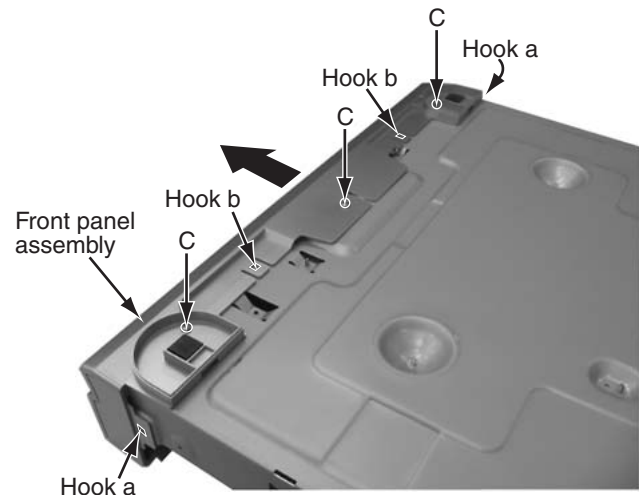
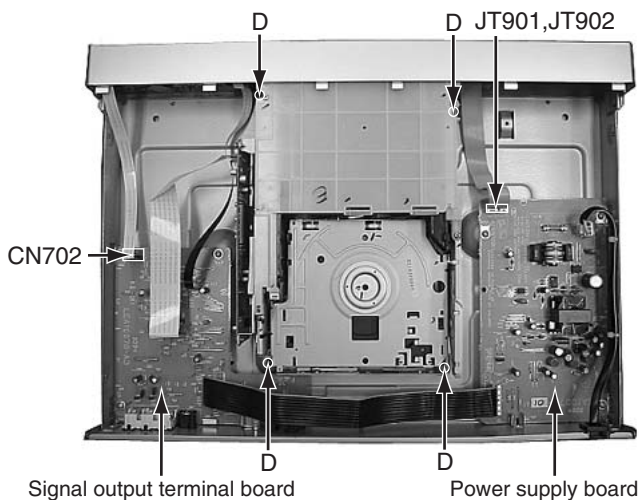
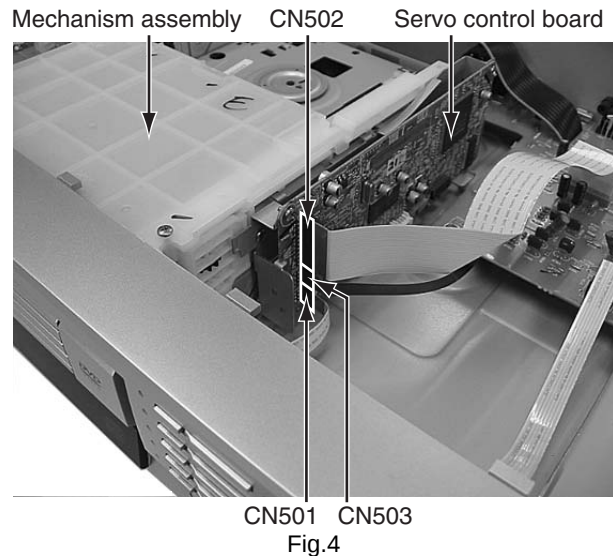

Fig.3
Fig.2
Fig.4
3.1.2 Removing the front panel assembly (See Figure 2, Figure 3, Figure 4)
3.1.3 Removing the changer mechanism assembly (See Figure 2, Figure 4)